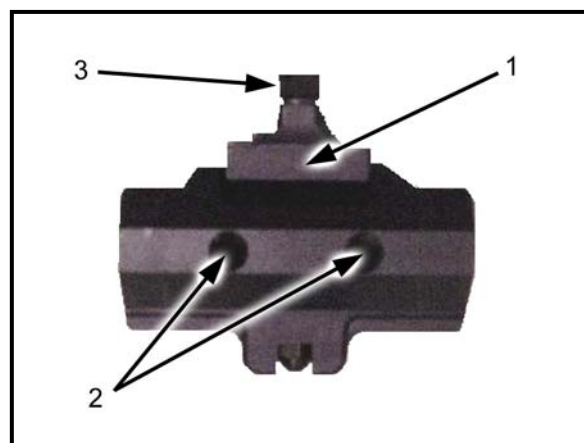
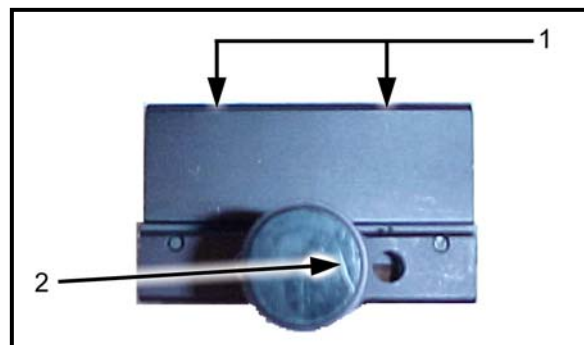

Figure 2-18. Insight rail grabber.
Figure 2-20. Picatinny rail grabber.
The Insight rail grabber (Figure 2-18) and the Picatinny rail grabber (Figure 2-20, page 2-14) were designed to mount accessories onto the M16A4 and M4-series weapons. Each rail grabber has proven its ability to retain zero when installed and tightened properly. Both rail grabbers attach accessories on the upper receiver and on all four sides of the RAS. Once zeroed the rail grabbers can be removed from the weapon and will retain zero as long as the rail grabber is not separated from the accessory and is remounted on the exact same notch it was zeroed on. If the accessory and rail grabber is reinstalled on a different notch, or the rail grabber is separated from the accessory, they must be rezeroed. A one-time retightening of the rail grabber and accessory is recommended after the first three rounds are fired to fully seat both. Details specific to each rail grabber are outlined in the following paragraphs.
a. **Insight Rail Grabber** (Figure 2-18). The Insight rail grabber is used to install the AN/PEQ-2A and AN/PAQ-4B/C. This rail grabber must fully rest on the RAS in order to retain zero. The locking clamp (1) must grasp the RAS, and the screw that tightens the rail grabber must be tightened with a field tool such as a multipurpose tool.
(1) Both of the holes (2) located in the top of the rail grabber can be used to mount accessories, but the hole closest to the muzzle must be used. This ensures the majority of the rail grabber is supporting the accessory being mounted to prevent damage to the accessory.
(2) The rail grabber can be mounted where the tightening screw (3) is on either the left or right side (when top mounted) or top or bottom (when left side mounted) so it does not interfere with the operation of the weapon.
(3) Unless command-directed, all devices in a unit do not have to be mounted in the same location as long as the individual users record or mark the mounting location on their weapon to avoid unnecessary rezeroing. (Some examples of marking techniques are paint markers and grease pencils.)
(4) Even if the rail grabber is resting entirely on the RAS, accessories should not make contact with the front sight assembly or the collar of the barrel. The vibrations that occur during firing will interfere with the rail grabber's and accessory's zero retention capabilities.
c. **Picatinny Rail Grabber** (Figure 2-20, page 2-14). The Picatinny rail grabber must fully rest on the RAS in order to retain zero. The locking clamp must grasp the RAS and the torque-limiting knob (1) that tightens the rail grabber must be hand tightened until it clicks two times.
(1) Both of the holes located in the top of the rail grabber (1) can be used to mount accessories, but the hole closest to the muzzle must be used. This ensures the majority of the rail grabber is supporting the accessory being mounted to prevent damage to the accessory. It also allows the torque-limiting knob (2) to be mounted on either the left or right side (when top mounted) or top or bottom (when side mounted) to ensure the torque-limiting knob does not interfere with the operation of the weapon.
(2) Unless command-directed, all devices in a unit do not have to be mounted in the same location as long as the individual users record or mark the mounting location on their weapon to avoid unnecessary zeroing. (Some examples of marking techniques are paint markers and grease pencils.)
(3) Even if the rail grabber is resting entirely on the RAS, accessories should not make contact with the front sight assembly or the collar of the barrel. The vibrations that occur during firing will interfere with the rail grabber's and accessory's zero retention capabilities.